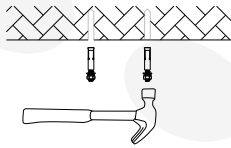

Figure 4
Step 2. Fix screws into the holes with a hammer. (Figure 4)